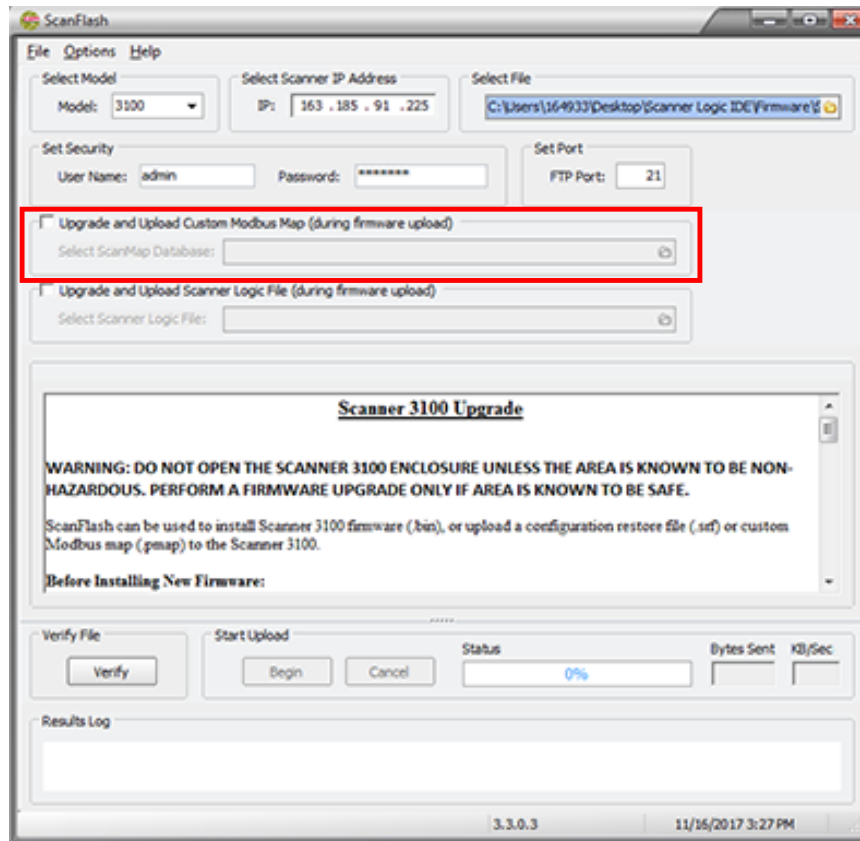

Figure 5.7—ScanFlash interface
3. Enter the IP address used to connect to the desired Scanner 3100 (Figure 5.7, page 28).
If you are uploading new Scanner 3100 firmware and you want to upload an custom Modbus map, click **Upgrade and Upload Customer Modbus Map** and browse to the file to be uploaded, as shown in Figure 5.7.